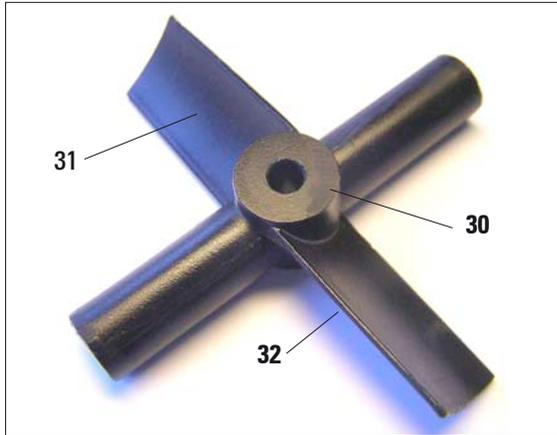

Fig. 7
- Unpack the magnetic stirrer (30) (Fig. 7) and insert into the retort.
- **Important!** Insert the magnetic stirrer so that the convex side (32) of the rotor blades (31) faces down. (Fig. 7)